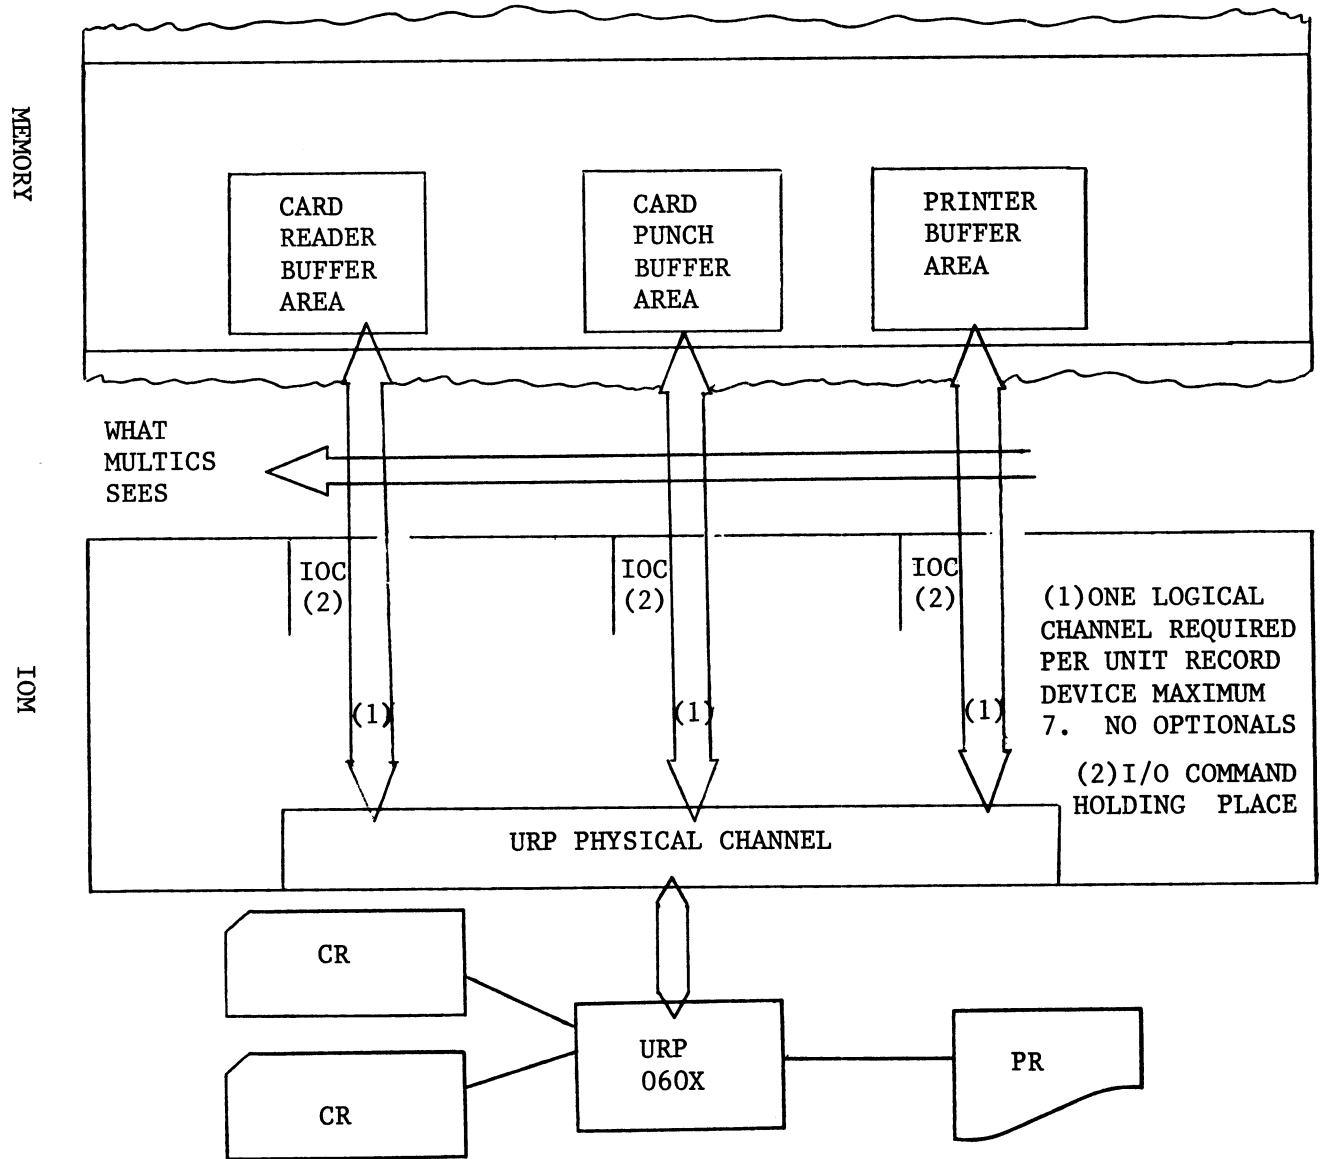

Figure 4-7. Logical Channel Assignments for the Unit Record Processor Subsystem
7. Logical channel assignments for Unit Record Processor subsystem (see Figure 4-7).